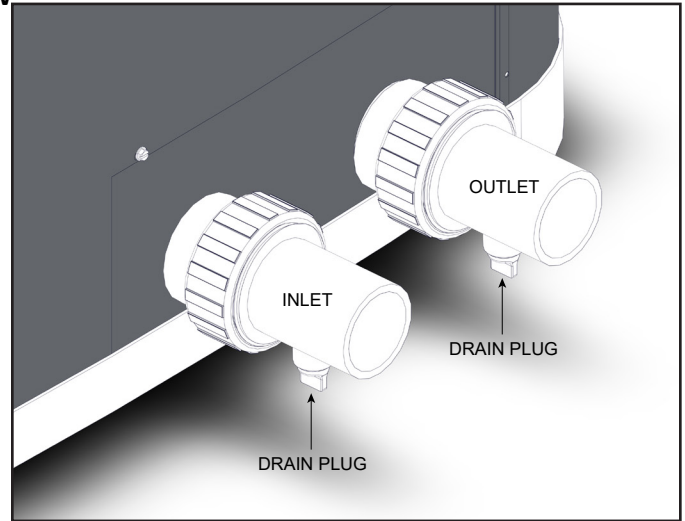

Figure 6. Water Connections/Drain Plugs
5. Drain plugs are located on each union fitting as shown in Figure 6 for draining the system during winterizing.
NOTE: While it is possible to mount the upper union with the drain plug vertically, the manufacturer has determined that installing both unions with the drain plugs facing down, as shown in Figure 6, provides for the best draining of the system.